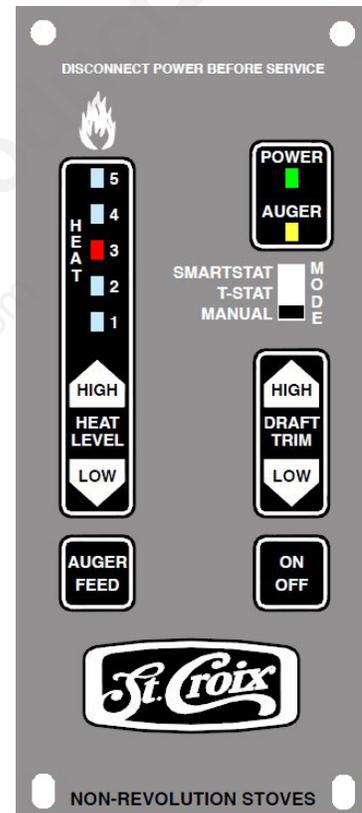

Figure 18
A closer look at the Control Board to the right in figure 18 will explain how the board works.
3. Push the On/Off button on the control board. (*See figure 18 on page 26*)